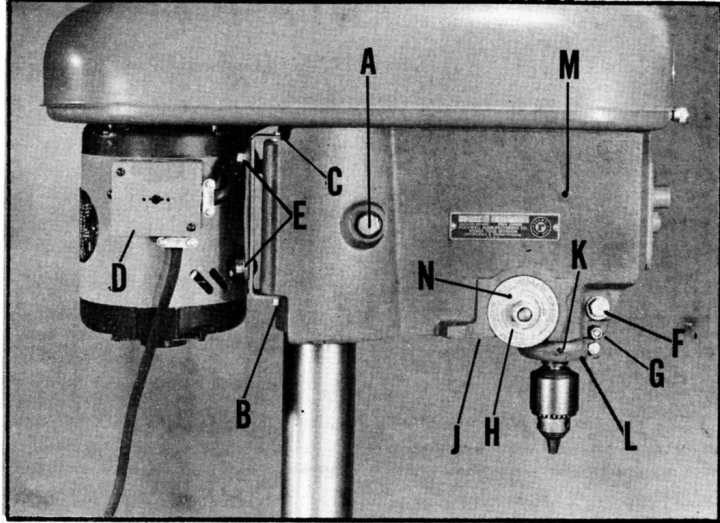
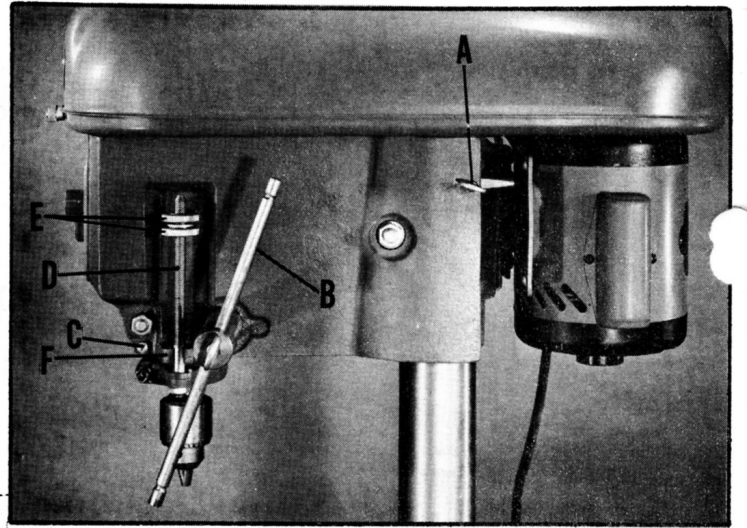

Fig. 2.
Fig. 3.
Your 15" Utility Drill Press has been completely assembled and tested at the factory. All that is necessary for you to do is loosen the clamp nut (A) Fig. 2, on left hand side of head, that clamps the head to the column, slide the head up until casting top is level with the top of the column and retighten clamp.
2. Remove the two hexagon head cap screws (B) and (C) Fig. 2, and remove motor plate from drill press head.
3. Mount motor to motor plate. Switch box (D) Fig. 2, on motor, should be on left hand side as shown.
4. Tighten finger tight the four motor mounting nuts (E) Fig. 2, that fasten motor to motor plate.
5. Lift whole unit to drill press head and replace the two hexagon head cap screws (B) and (C) Fig. 2.
6. Loosen thumb screw (A) Fig. 3, and push motor and motor plate in towards Drill Press Head as far as it will go. Then tighten thumb screw (A).
7. Visually line up the motor so that it is in parallel alignment with the spindle. In most cases it will be necessary to raise the motor all the way and move it to the extreme right of head when looking from front of drill press. Tighten the four motor mounting nuts (E) Fig. 2, and line up the motor pulley with the spindle pulley.
8. To install V-belt, push motor toward Drill Press as far as possible (See Step #6). Assemble belt, loosen thumb screw (A) Fig. 3, and push motor back to desired belt tension and retighten thumb screw.
The spindle is raised and lowered by the hand lever (B) Fig. 3. The quill can be locked at any desired point in its travel by tightening the quill locking screw (F) Fig. 2. This is an especially desirable feature for router and shaper work.
The adjusting screw (C) Fig. 3 and nut (G) Fig. 2, are set at the factory to give the quill the proper sliding fit in the head casting. After long service, play between quill and head casting can be removed without the need to replace these parts. The nut (G) Fig. 2 is loosened, adjustment is made with the screw (C) Fig. 3, and the nut is again tightened to prevent the screw from turning. Hold the screw
with a screw driver when nut is tightened, and check by moving the quill up and down several times to be sure the quill does not bind. This adjustment should be made with stop rod (D) Fig. 3, removed.
For the purpose of automatically returning the spindle upward after the hole has been drilled, a clock spring is provided enclosed in the case (H) Fig. 2. This spring has been properly adjusted at the factory and the adjustment should not be disturbed unless absolutely necessary. If at any time it is necessary to adjust it, proceed as follows:
1. To increase the tension of the spring, turn the screw (J) Fig. 2 which is located underneath the head, clockwise. CAUTION: BE CAREFUL NOT TO BOTTOM RETURN SPRING WHILE TURNING SCREW (J) FIG. 2, CLOCKWISE. THERE SHOULD BE ENOUGH SLACK LEFT IN SPRING TO PERMIT LOWERING THE SPINDLE THE FULL AMOUNT OF TRAVEL.
2. To decrease the tension of the spring, turn the screw (J) Fig. 2, counterclockwise.
3. The tension of the spring can be tested by pulling down the feed lever (B) Fig. 3, and testing to see if the quill will return to the up position. Be sure the quill locking screw (F) Fig. 2, is loose while testing. NOTE: Before determining if this adjustment is necessary make sure the stop rod (D) Fig. 3, runs freely up and down and is not twisted in the slot or guide of the head casting.
When drilling one or two holes to a predetermined depth, the calibrations on the face of the depth stop rod (D) Fig. 3, can be used.
Where a number of holes are to be drilled to exactly the same depth, the stop nuts (E) Fig. 3 on the threaded stop rod (D) are used. After the first hole has been drilled to depth, the lower stop nut is set against the lug (F) on the head through which the stop rod passes. Return the quill to the up position and tighten the upper stop nut against the lower stop nut and all subsequent holes will be drilled to exactly the same depth.
4. Loosen set screw (K) and remove the stop collar (L), Fig. 2.
6. Release tension on clock spring by turning screw (J) Fig. 2 counterclockwise.
About once a week, squirt machine oil into the oil hole (M) Fig. 2, on the left side of the drill press head, while feeding the quill up and down. This will lubricate the quill in the head, and concentrate oil on the rack of the quill and the teeth of the pinion shaft.
Once a month oil the clock spring and the left end of the pinion shaft, by squirting machine oil in the hole (N) Fig. 2 which is provided in the housing of the spindle return clock spring. Also oil the pinion shaft where it passes through the head on the right.